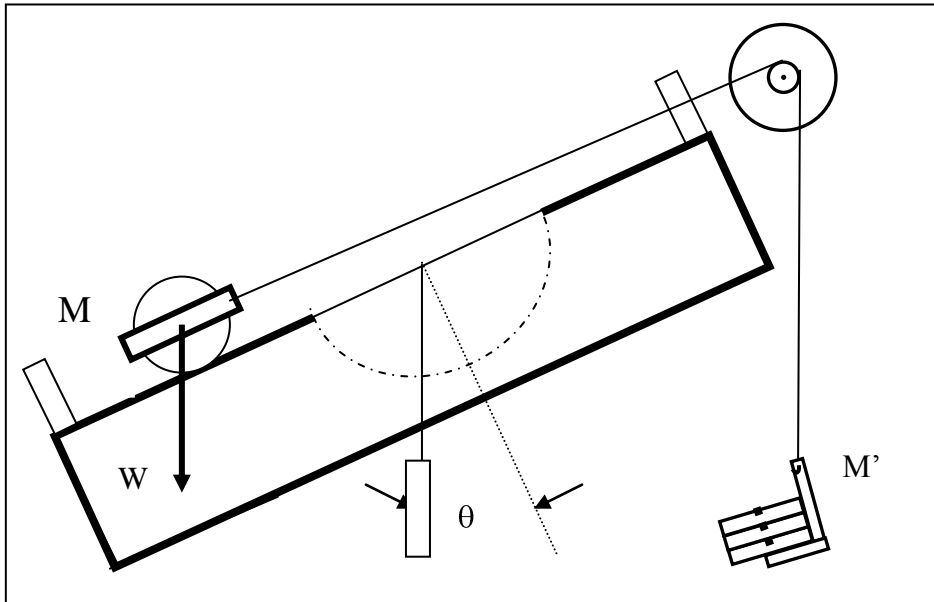

Figure 8.4: Normal Force, Equipment Setup
- 4- To measure the force of the rolling mass on the inclined plane, set up the equipment as shown in Fig.8.4. Vary the tilt of the inclined plane until the hanging mass and the rolling mass are in equilibrium.